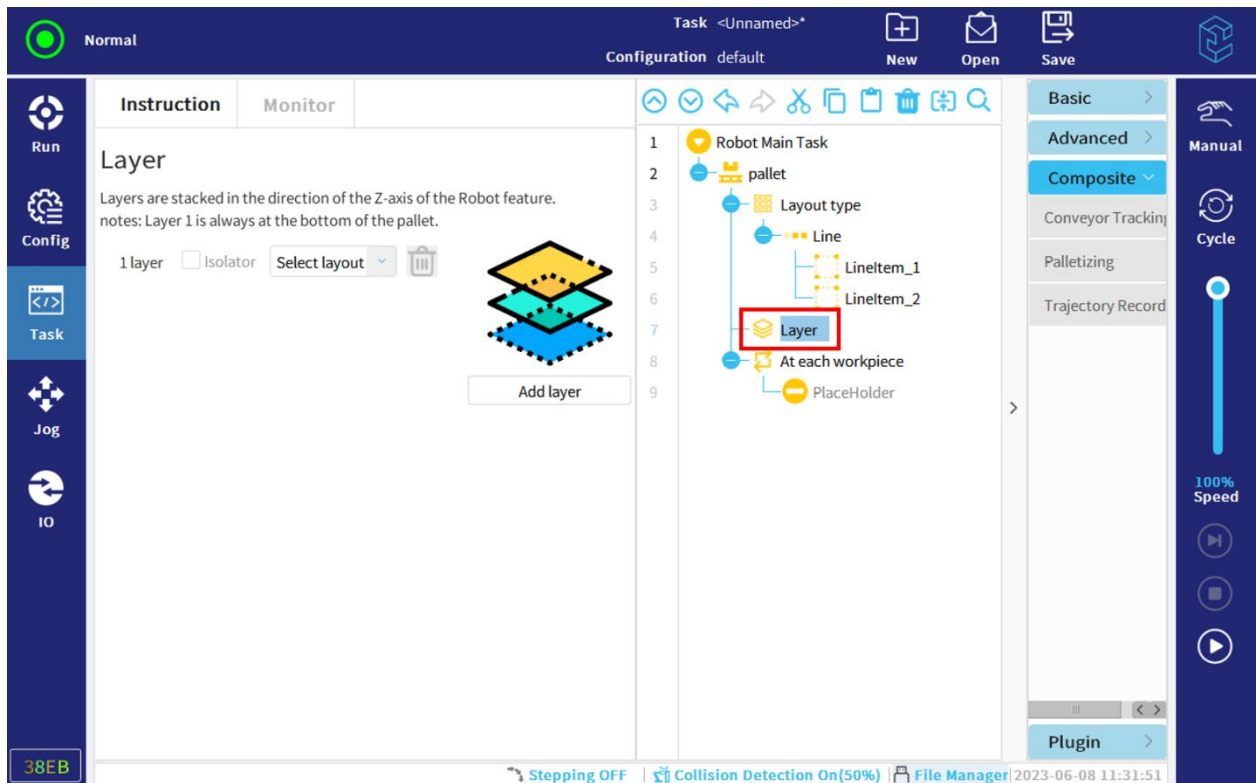

Figure 12-32 Set layer
4. Click the "Layer" node in the task tree and click "Add layer" to set the number of layers of the pallet, the layout type of each layer, and whether to include the isolation layer, as shown in Figure 12-32.